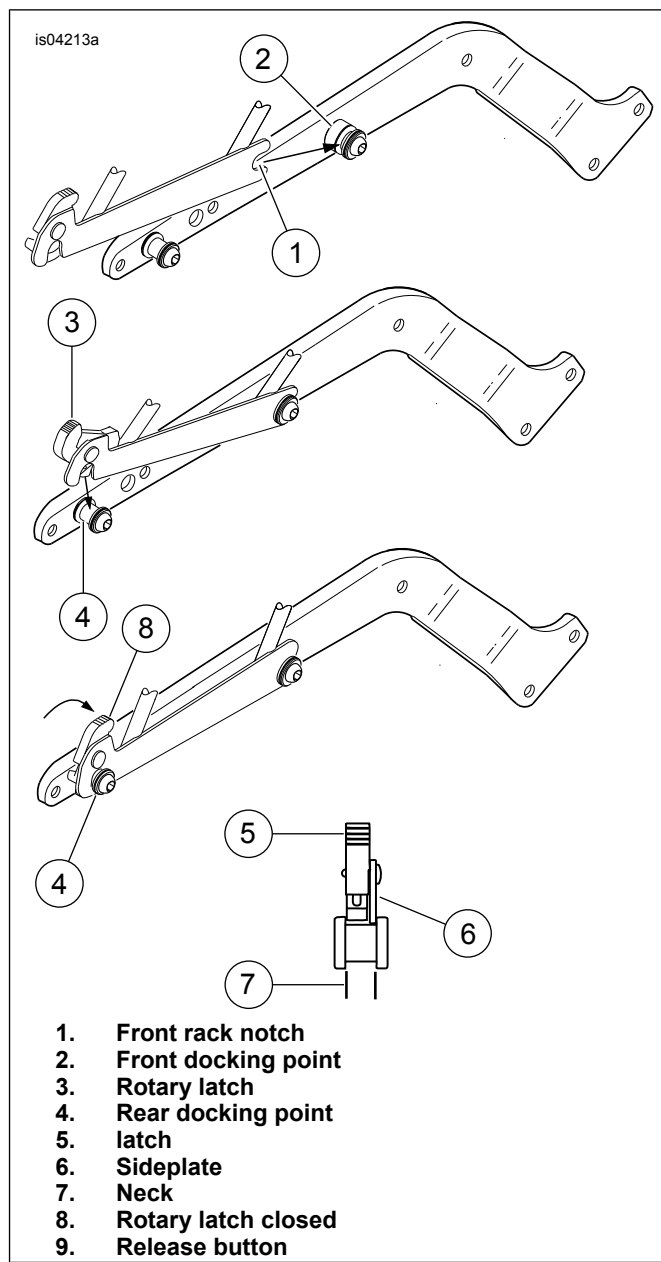

Figure 3. Solo Pak Installation Sequence
5. See Figure 3. Position the latches over the front docking points (2). Check to verify the latches (3) fit into the neck (7) of the rear docking points as shown. Positioning can require some gentle squeezing and spreading of the rack.
7. To remove the Tour-Pak, press the release button (9) on each side. Pull the rotary latch levers (3) back. Carefully lift the rear of the Tour-Pak rack up. Pull the rack out of the front docking points.